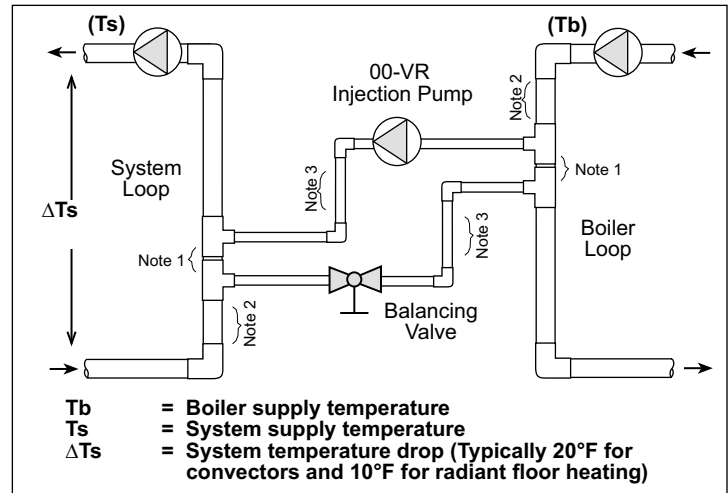

Fig. 1
When the injection pump is turned off, there must be no heat transfer from the boiler loop to the system loop. In order to avoid this unwanted heat transfer, primary/secondary piping techniques are used as shown in figure 1.
- 1) Determine the design operating temperatures of the system loop and boiler. (Ts and Tb from figure 1)